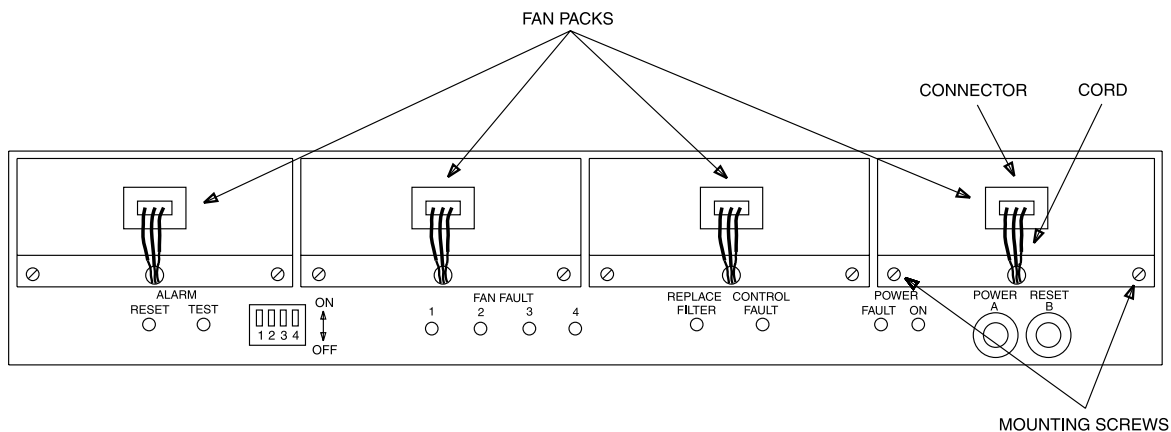

Figure 1 – DDM-2000 Fan Shelf — Front Cover Removed
- Disconnect the fan pack cable and unscrew the two mounting screws holding the fan pack in place. See Figure 1.